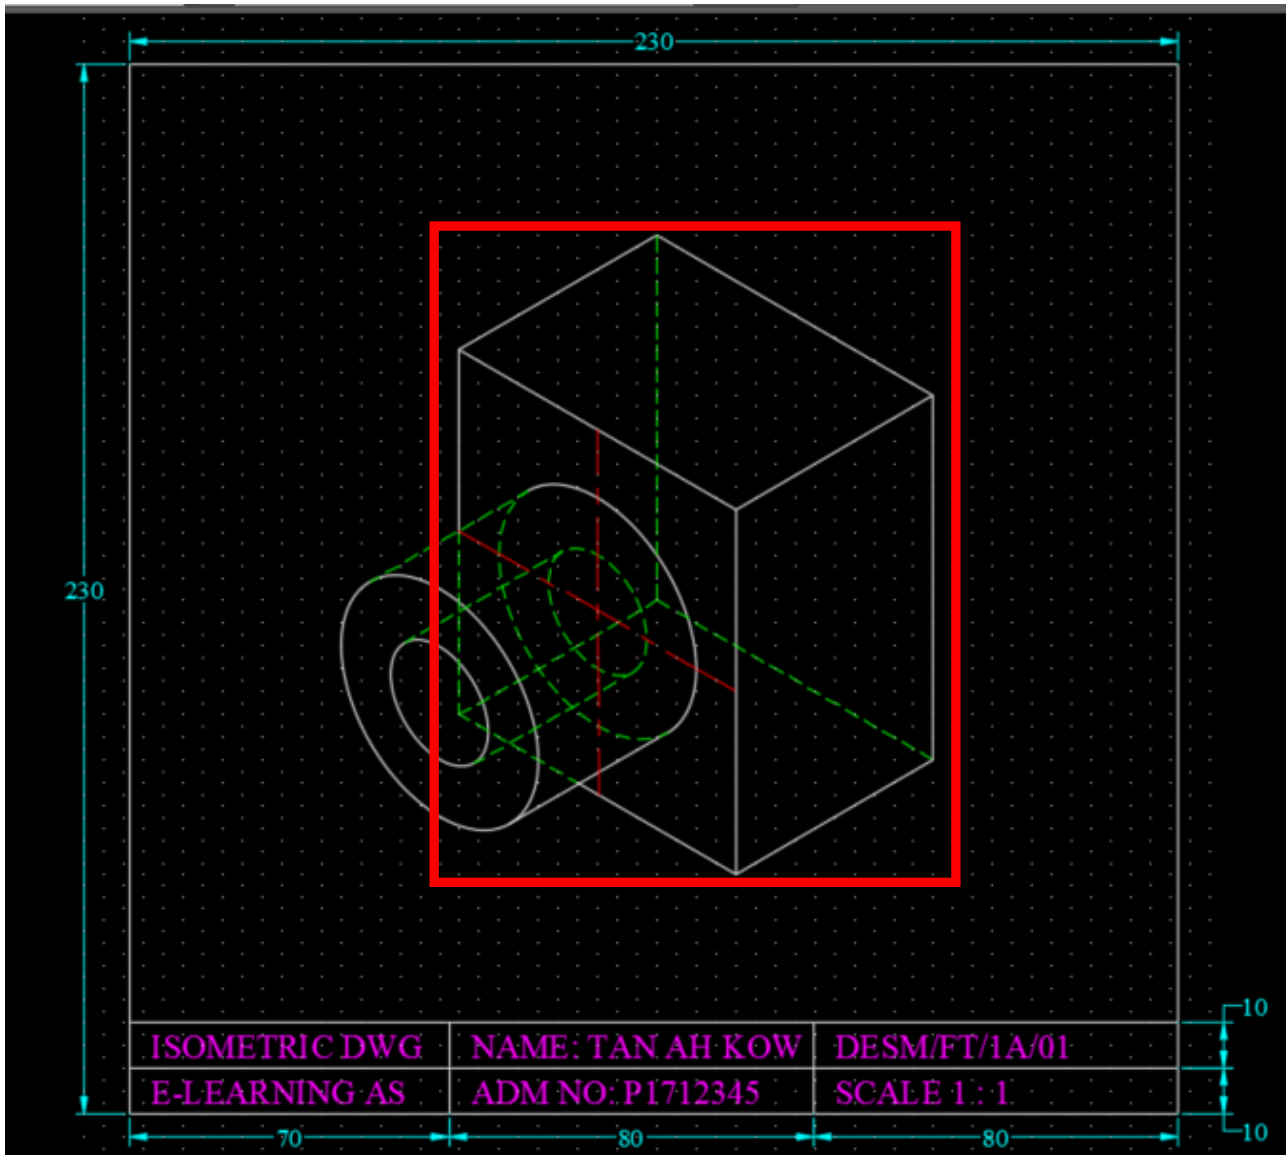

FIG 13
14. Similarly, complete the extension of trapezoid by drawing the top surface using lines and complete with commands copy. Select three lines and convert to hidden lines (green) and draw 2 centre lines (red) as shown in FIG 13. (Do remember to insert the hidden lines & centre lines to respective Layers for Hidden & Center Lines):